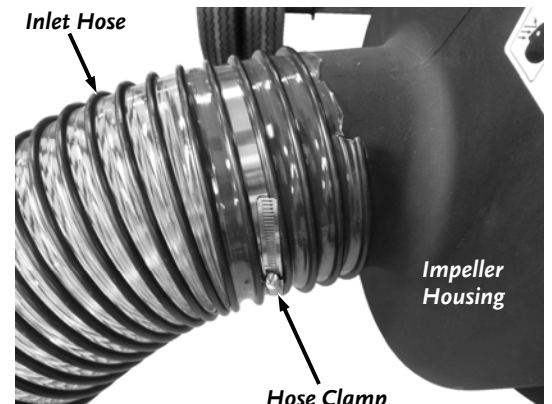

Figure 55
- b. Loosen the Hose Clamp that secures the Inlet Hose to the Impeller Housing with a 5/16" Wrench and pull the Hose from the Housing (**Figure 55**).